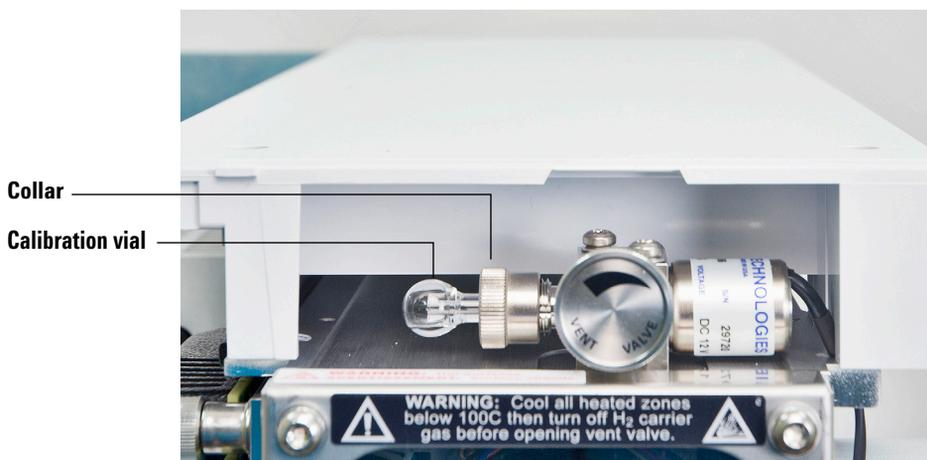

Figure 15 Removing the EI calibration vial
- 5 Loosen the calibration vial collar (Figure 15). Do not remove the collar.
- 3 Loosen the collar, and remove the calibration vial (See Figure 15 on page 118). Just loosen the collar, do not remove it.
- 1 Remove the old valve assembly. See “To Remove the EI Calibration and Vent Valve Assembly” on page 121 and Figure 15 on page 118.